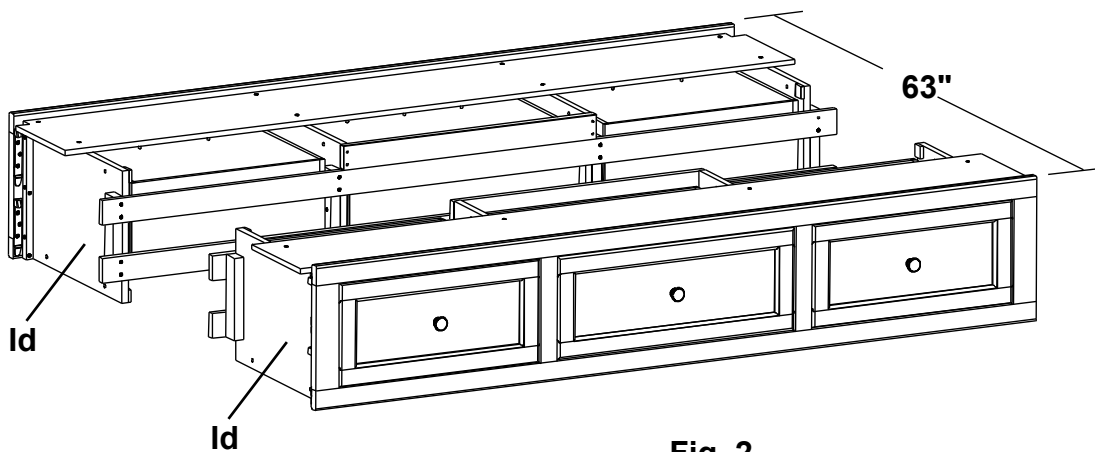

Fig. 2
2. Place both Pedestals (Id) approximately 63" apart as shown in Figure 2.